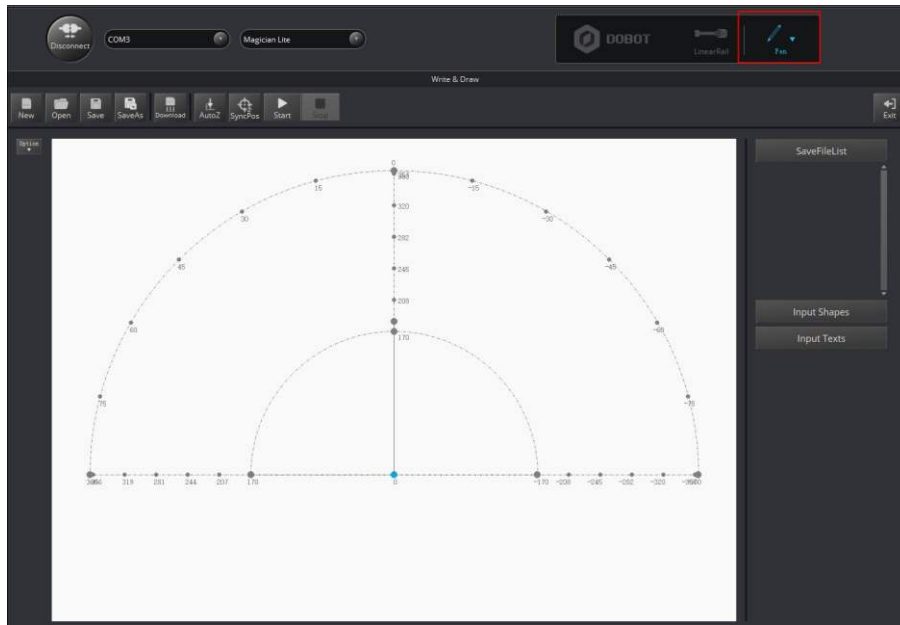

Figure 5.39 Choose Pen as the end-effector
Step 3 Choose **Pen** as the end-effector on the **Write & Draw** page, as shown in Figure 5.39.